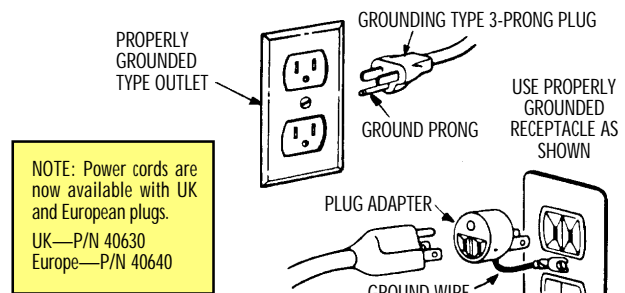

FIGURE 1—Proper grounding for electrical connections.
- 2. GROUND ALL TOOLS**—If a tool is equipped with a three-prong plug, it should be plugged into a three-hole receptacle. If an adapter is used to accommodate a two-prong receptacle, the adapter wire must be attached to a **KNOWN GROUND**. Never remove the third prong. (See Figure 1 in right-hand column.)